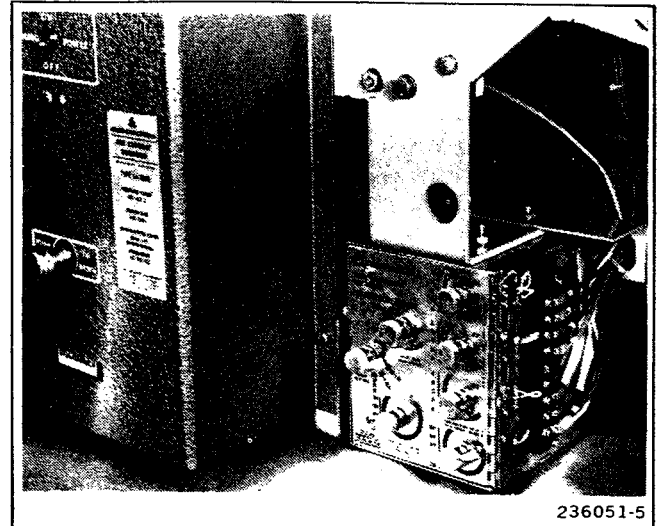
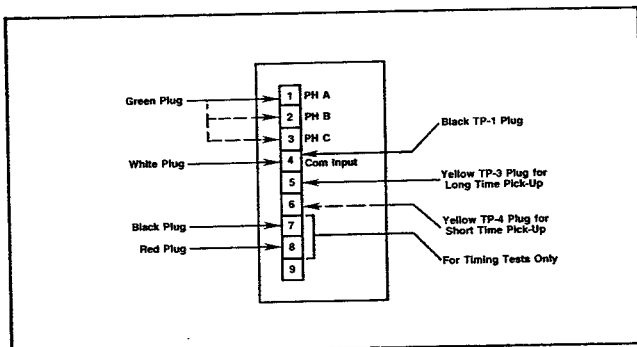
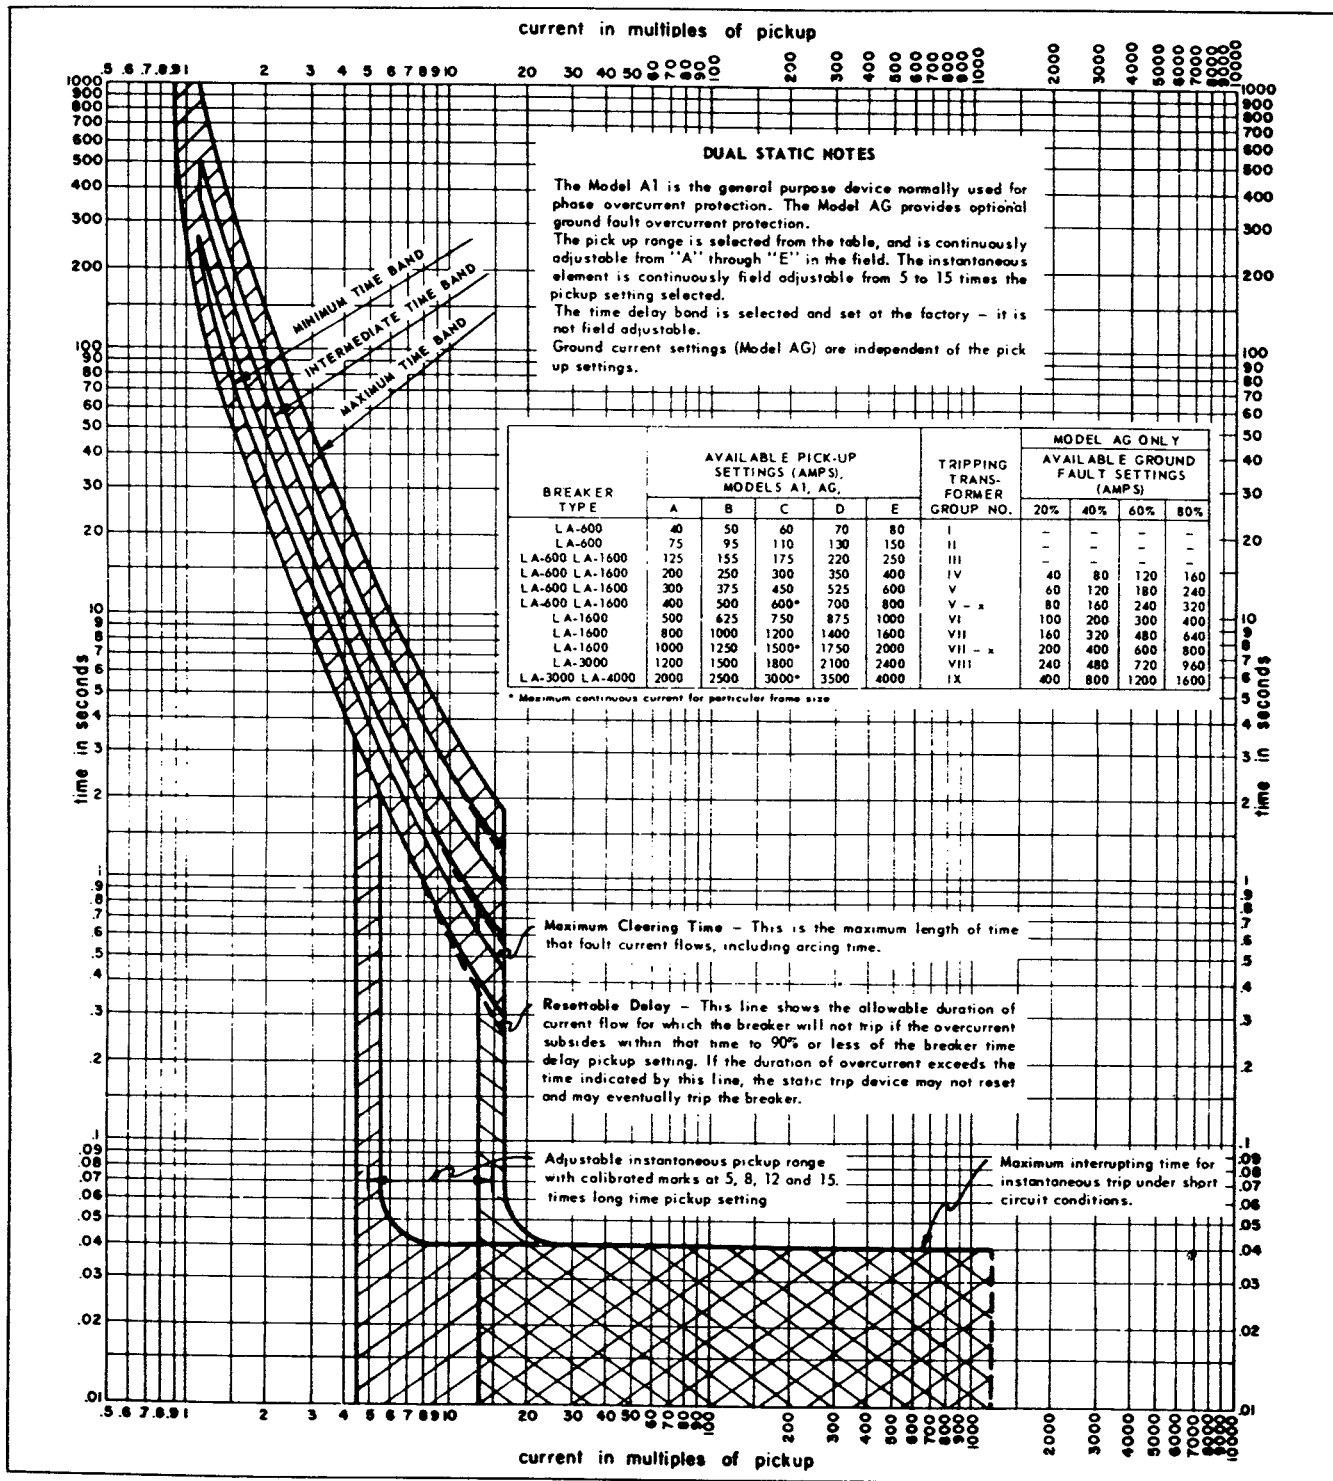

Figure 8. First Generation Static Trip Terminal Block
Figure 9. Test Connections—Models A, A1, A2, C3, D, D1 and D2
Figure 13. Time Current Curves—Models A, A1, A2, AG and AG1
The connections to the first generation trip devices terminate on an 8 or 9 point terminal block mounted on the side of the device. See **Figure 8**. To allow using the test set plugs to connect to this terminal block, alligator clips are furnished with the test set to clip onto the terminal block screws. Four of the clips accept the four banana plugs and three accept the pin plugs for the pick-up lights. The bottom line of **Table 3** gives the calibrated settings for secondary amperes for the first generation trip devices and on the same page, available models are listed and described. **Figures 13, 14, 15, 16** and **17** are the time current characteristic curves for the various models. Connections from the test set are different for different models and are shown in **Figures 9 through 12**.
labeled "Instantaneous Trip Setting" (4). The Short Time Pick-Up is labeled "Transfer to Short Time (5). There are no test jacks provided on the front of the device. Connections for trigger indication are made to points on the terminal block as shown in **Figures 9 through 12.** (6) On STATIC TRIP II the knob reference dots (knob counterclockwise against stop) are black and the calibration dots are red. On first generation trip devices the reference dots are red and the calibration dots are black on some models and white on others.
Keeping the above differences in mind and making careful reference to the appropriate connection diagram in **Figure 9 through 12,** the test instructions in "Testing Static Trip on the Breaker" (omitting the connection instructions in each case), can be used for testing first generation trip devices also. Compare the test results with **Table 3** and **Figures 13, 14, 15, 16** and **17** as applicable.